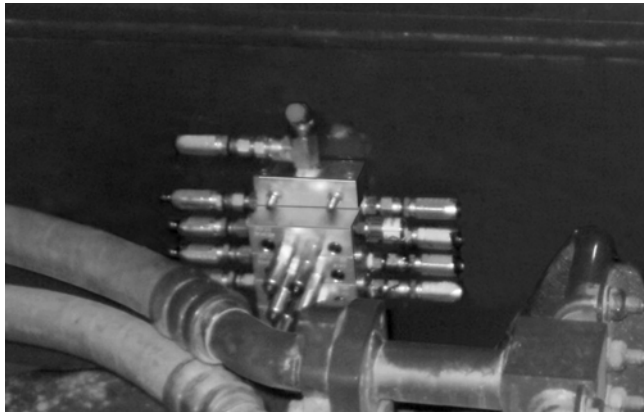
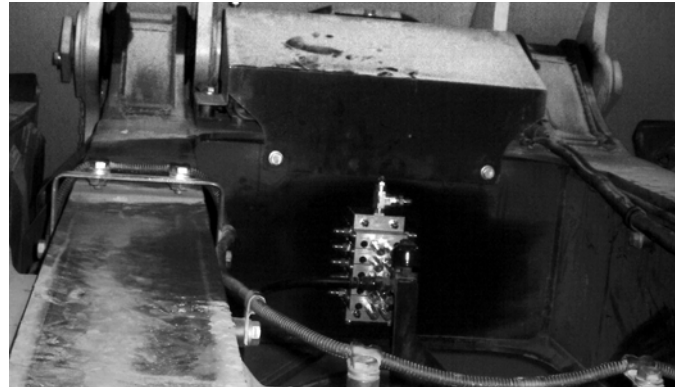

FIG. 30: Middle Secondary Divider Valve
FIG. 31: Rear Secondary Divider Valve
6. Install the Middle and Rear Secondary MSP Divider Valves to the weld studs using the supplied 1/4-20 lock nuts. See FIG. 30 and FIG. 31.